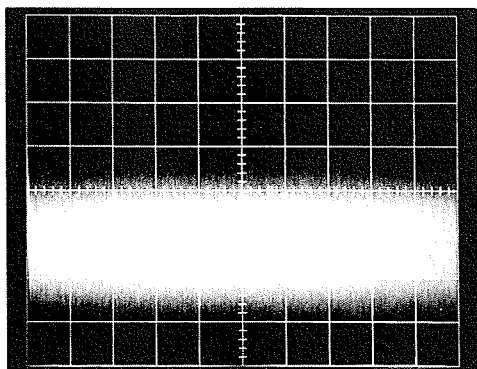

Fig 4. Final Adjustment. Dark band between the noise bands has just vanished.
4. Reduce the squarewave amplitude till the two noise bands merge (the point where the darker band between the noise bands just vanishes), see fig 4. The final amplitude adjustment should be made slowly, since the observer may adapt to the pattern and tend to observe a residual dark band where none is observable a few seconds later. A total adjustment time of 1 minute is typical.